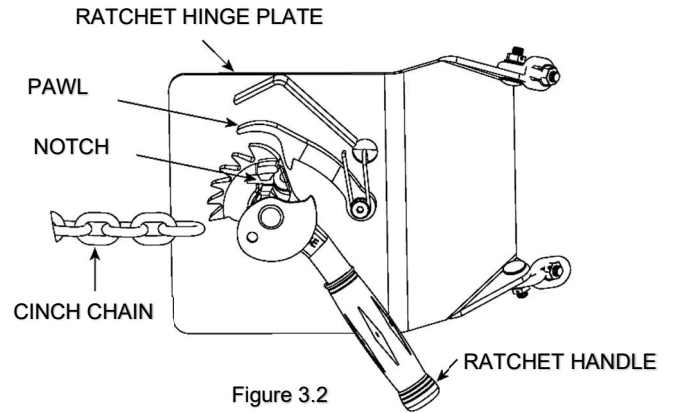

Figure 3.2
2. Using the “LIFT” control as described in “Machine Description - Controls”, position the drum holder assembly with the back band at the middle of the drum. (Figure 3.2). With the ratchet plate swung open and the cinch chain hanging from the chain hook, push the unit until the back band rests firmly against the drum. Some adjustment to the tilt angle of the saddle may be necessary to ensure band fits flush on the drum.
3. Attaching the drum: Drape the chain across the front of the drum and engage a link into the notch in the ratchet (Figure 3.2). Turn the ratchet clockwise to tighten the chain. If the ratchet turns until the pawl is beyond the last ratchet tooth, turn the ratchet back and slide the next link into the ratchet notch and try tightening again. The chain must be held tightly against the drum with the pawl engaged securely in the ratchet teeth.